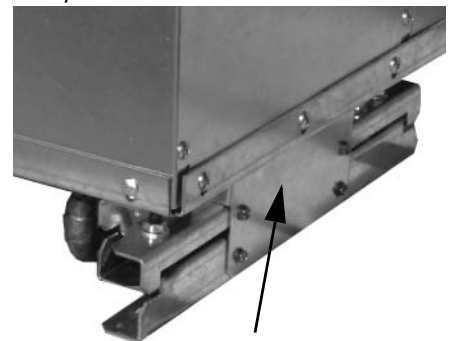

Figure 10: Bracket removal for enhanced sound package
- 3 Remove two shipping brackets (one on each side) attached to the chassis slide rails and discard, *Figure 10*. *Note: Remove this bracket only if the enhanced sound package design is preferred.*